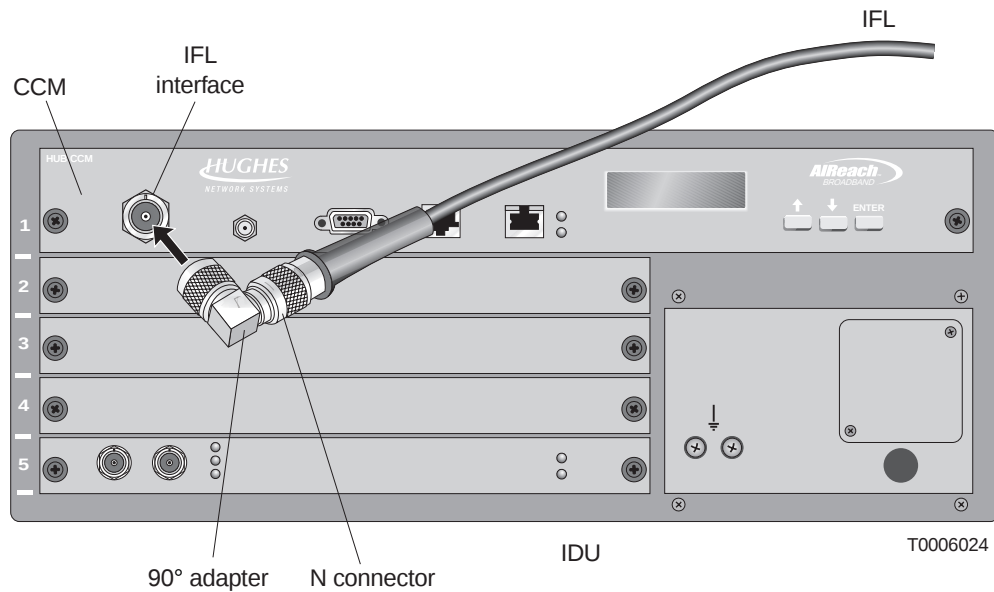

Figure 6-21 Connecting the IFL cable
2. Using a 90° adapter, connect the IFL to the CCM IFL interface, as shown in figure 6-21.